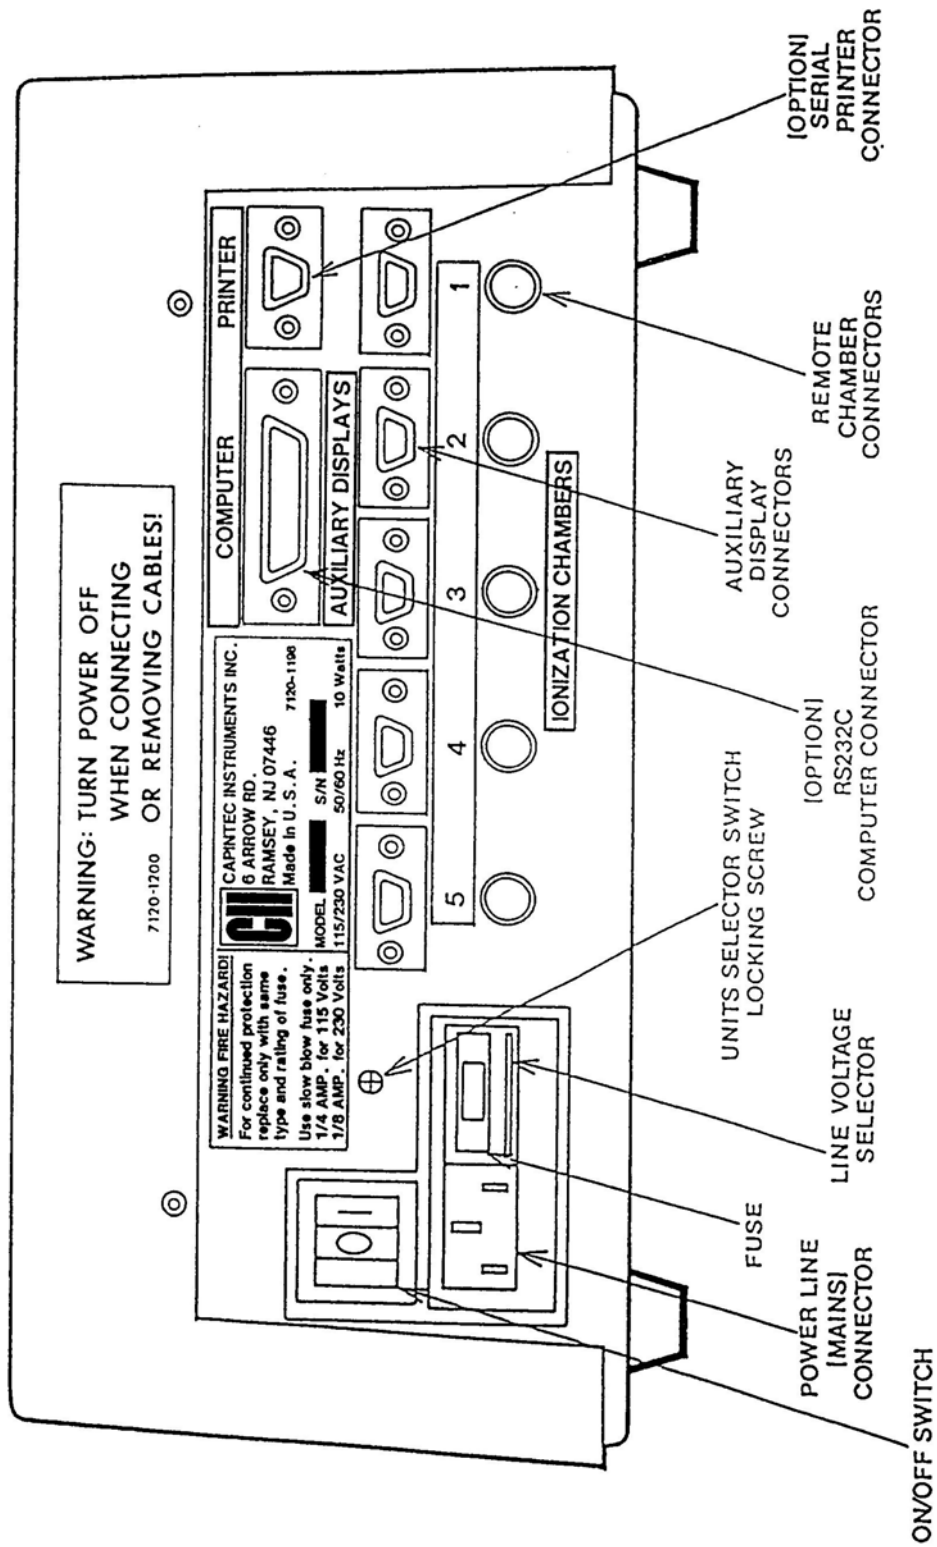

Figure 3-2 CRC-712MX Back Panel
1. Facing the rear of the calibrator, locate the Unit's Selector Switch Locking Screw and remove it from its storage position (Refer to Figure 3-2).